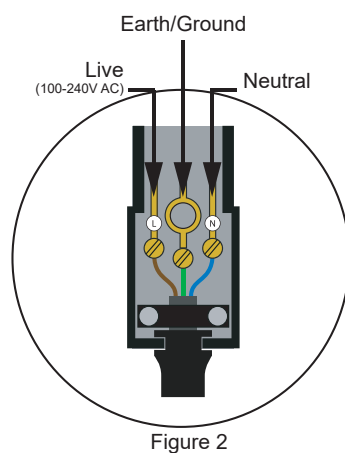

Figure 2
- Wire the mains power cable into the IEC plug (See Fig 2.)